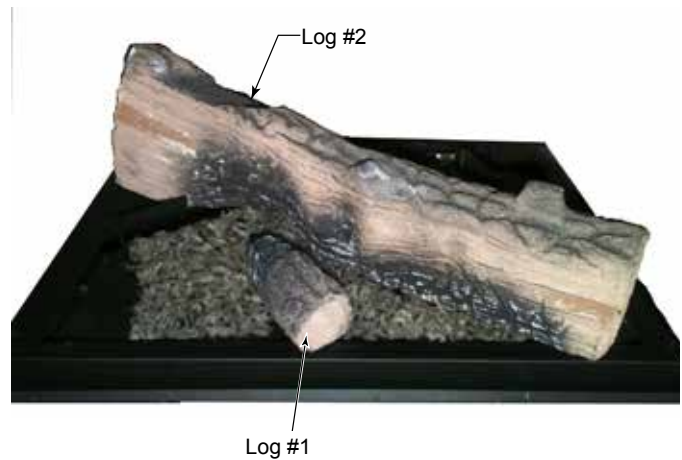

Figure 23
3. Align the two pin holes on Log #1 onto the burner. Figure 23
4. Place log #2 by aligning the holes to the burner pin. Figure 23